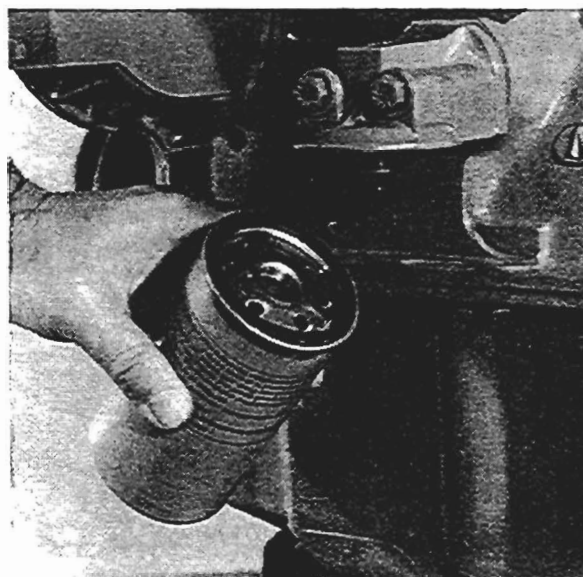

Fig. M4
1. Remove the filter canister with a strap wrench or similar tool and discard the canister (see fig. M4).